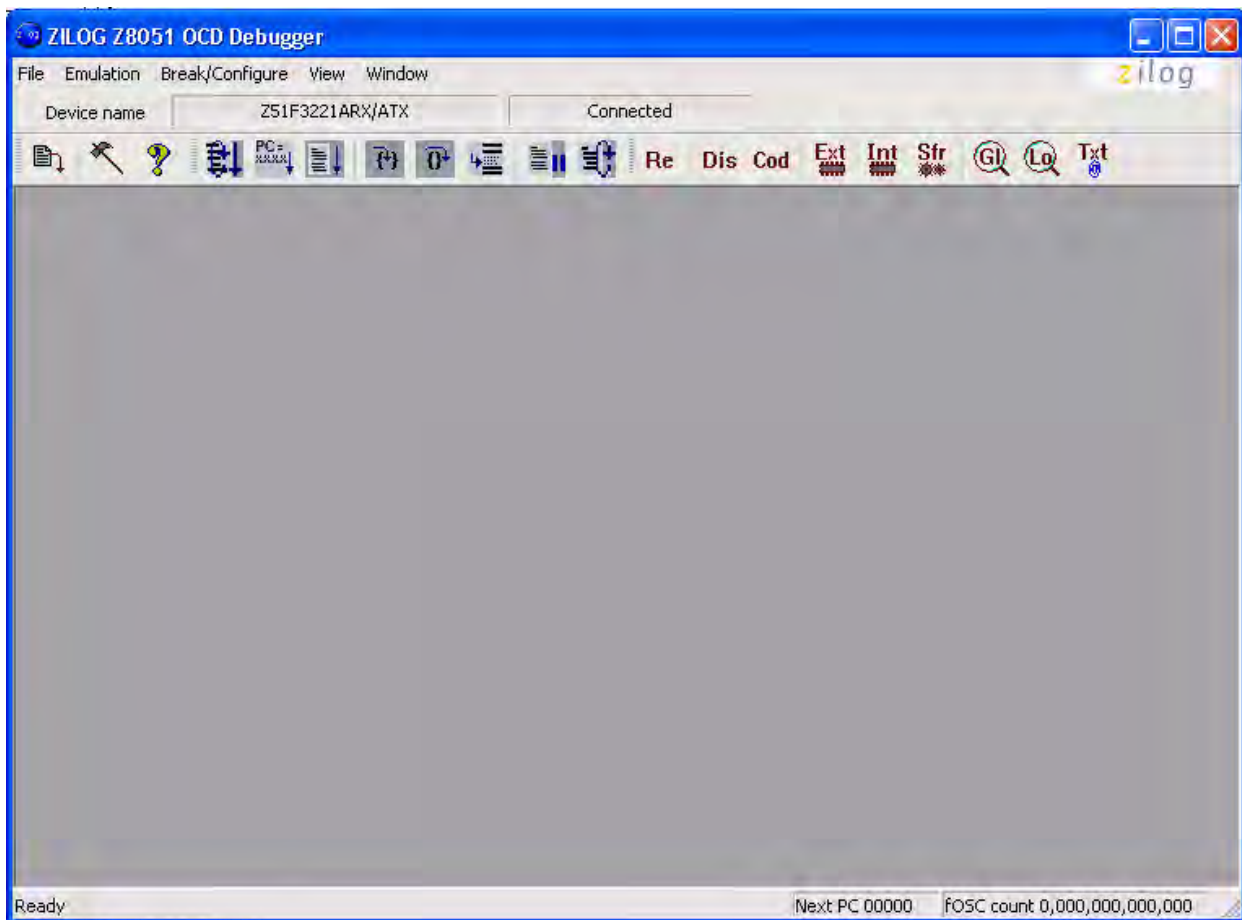
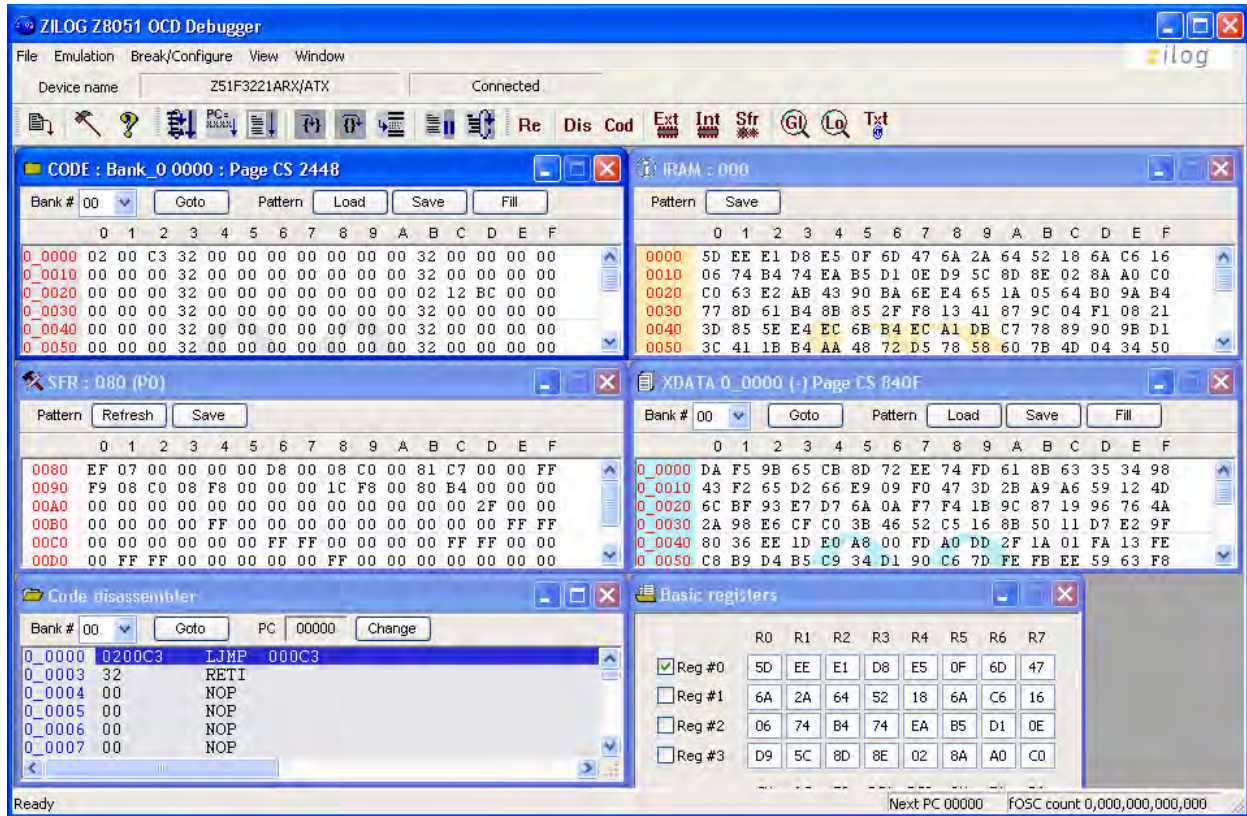

Figure 20. A Typical On-Chip Debugger Window
Figure 21. A Typical On-Chip Debugger Window with Child Windows Open
9. Click **OK** to open the On-Chip Debugger's main window. A typical OCD display is shown in Figure 20; Figure 21 shows an OCD window with child windows open.
► **Note:** Use the View menu to open the child windows. For this demonstration, the example windows shown in Figure 21 do not need to be opened.